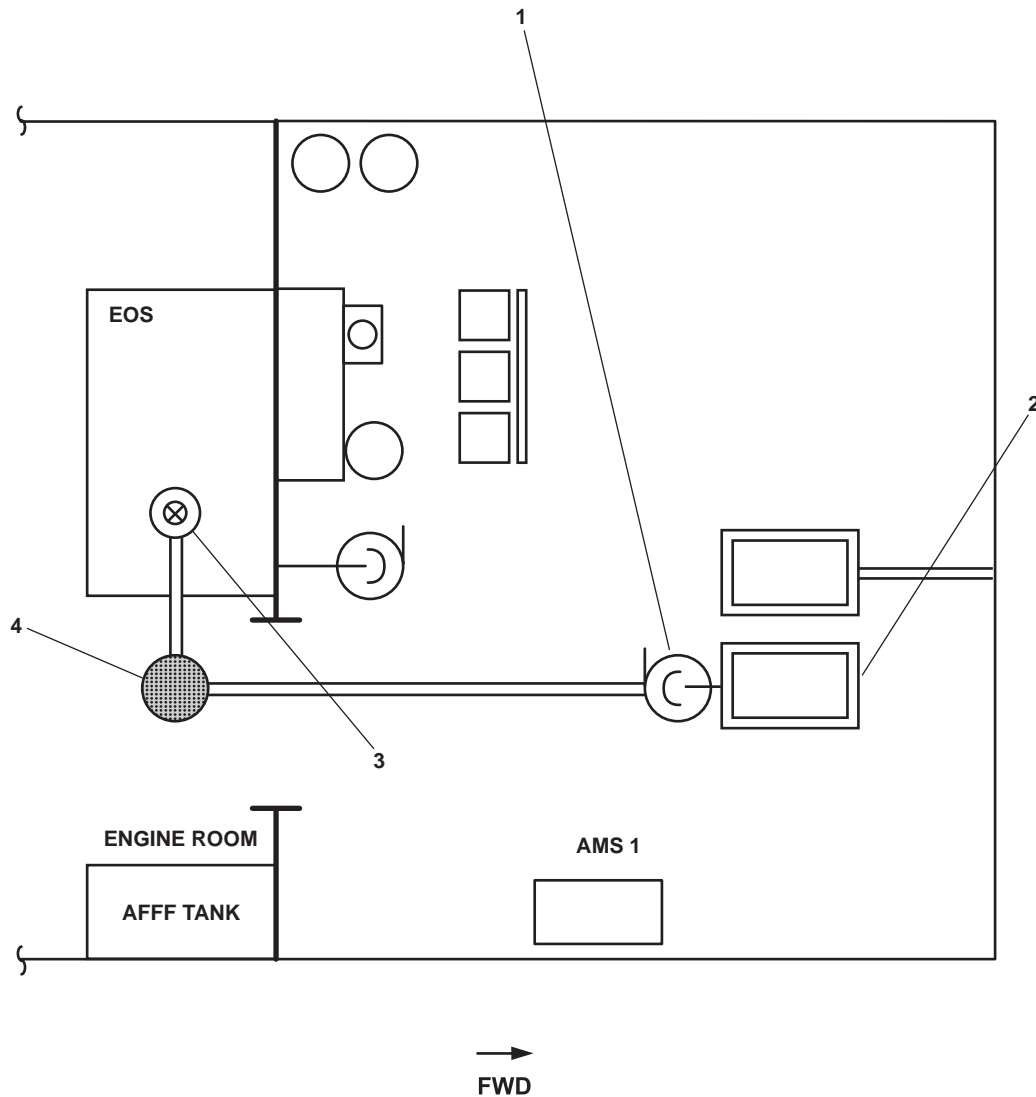

Figure 9. Diesel Engine-Driven Firefighting Pump Component Locations
1. Diesel Engine-Driven Firefighting Pump (figure 9, item 1). This pump provides raw water to the fire monitors and can be used to pressurize the fire main if the fire and general service pumps are not available.
2. Pump Driven Engine (figure 9, item 2). This engine is the prime mover for the diesel engine-driven firefighting pump.
3. Forward Sea Chest (figure 9, item 3). Raw water is drawn from this sea chest to provide firefighting water to the diesel engine-driven firefighting pump.
4. Simplex Strainer (figure 9, item 4). This strainer removes solids from the raw water prior to being delivered to the diesel engine-driven firefighting pump.